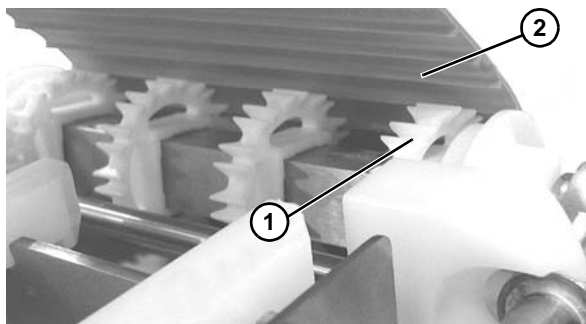
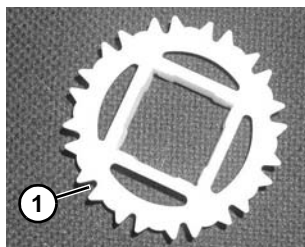

Figure 10
Figure 11
6. Align the sprockets (Figure 10, item 1) with the cogged drive teeth (Figure 10, item 2) on the inside of the belt.
NOTE: The cogged drive teeth on the belt (Figure 10, item 2) should engage the deep grooves of the sprocket (Figure 11, item 1).